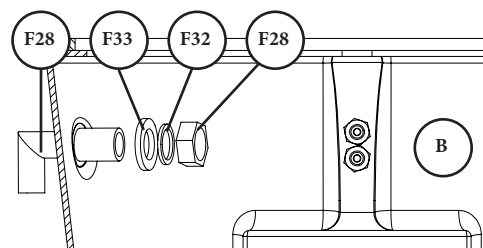

FIG. 7a
Turn Cone Assembly (B) right side up and secure Nylon Elbow (F28) into upper drilled hole with Rubber O Ring (F33), Nylon Washer (F32), and the Nut included on the Nylon Elbow (F28) [FIG. 7a].